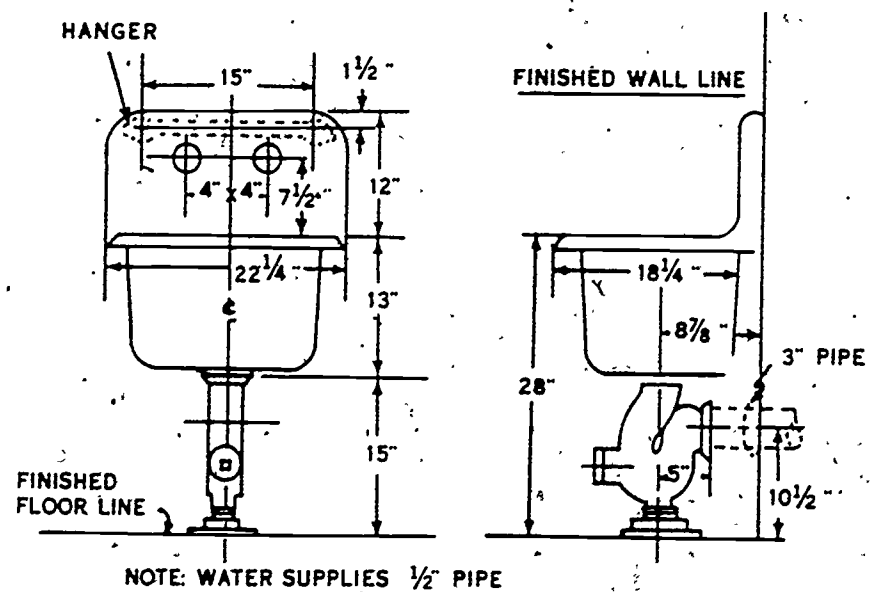

Figure 12. Rough-In Measurements for a Slop Sink
3. Study the rough-in measurements in figure 12, then place your answers to each question on the blank line.